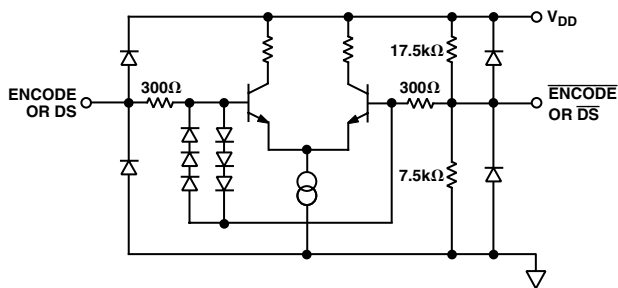

Figure 5. Equivalent ENCODE and Data Select Input Circuit
³t_v and t_{PD} are measured from the threshold crossing of the ENCODE input to valid TTL levels of the digital outputs. The output ac load during test is 5 pF (Refer to equivalent circuits Figures 5 and 6).
ENCODE and Data Select (DS) can be driven differentially or single-ended. For single-ended operation, the complement inputs ($\overline{\text{ENCODE}}$, $\overline{\text{DS}}$) are internally biased to $V_{DD}/3$ (~1.5 V) by a high impedance on-chip resistor divider (Figure 5), but they may be externally driven to establish an alternate threshold if desired. A 0.1 μF decoupling capacitor to ground is sufficient to maintain a threshold appropriate for TTL or CMOS logic.
Note the 6-diode clock input protection circuitry in Figure 5. This limits the differential input voltage to $\sim \pm 2.1$ V. When the diodes turn on, current is limited by the 300 Ω series resistor. Exceeding 2.1 V across the differential inputs will have no impact on the performance of the converter, but be aware of the clock signal distortion that may be produced by the nonlinear impedance at the converter.